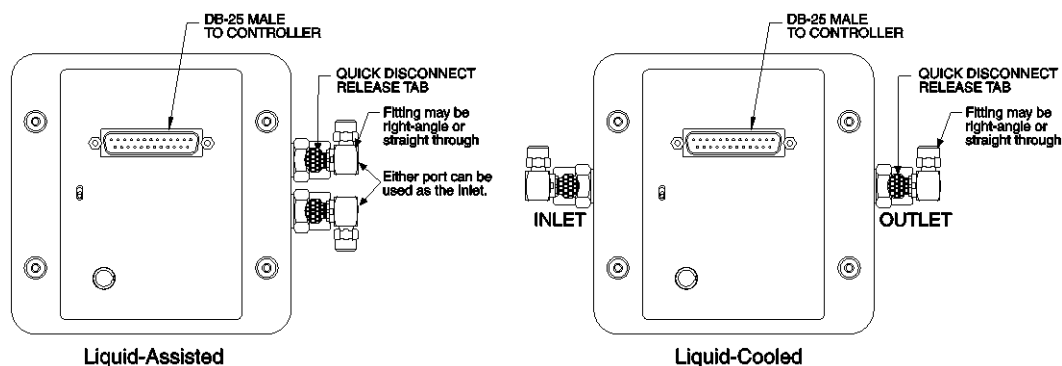

Figure 13. Coolant Ports
*For best cooling, connect the inflow and outflow tubing to the ports as indicated in Figure 13.*
- 6) Because of the automatic shutoffs, disconnecting the coolant supply is done by simply depressing the release tabs (Figure 13) and removing the fittings. Reconnecting the supply is done by reinserting each fitting into the appropriate valve body until you hear a click.
For best cooling, connect the inflow and outflow tubing to the ports as indicated in Figure 13.
- 3) Because of the automatic shutoffs, disconnecting the coolant supply is done by simply depressing the release tabs (Figure 13) and removing the fittings. Reconnecting the supply is done by reinserting each fitting into the appropriate valve body until you hear a click.